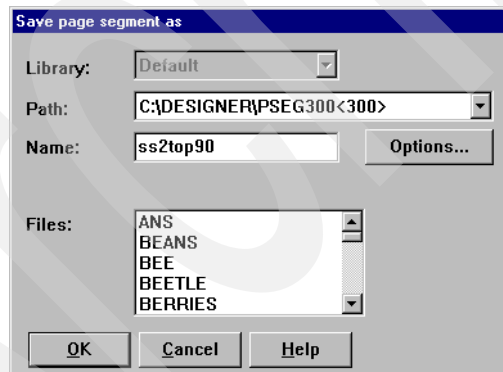

Figure 40. Saving the rotated page segment
4. You are prompted to save the new page segment in your library path. A useful convention is to add "90" to the original name (in this case `ss2top90`). Figure 40 shows an example of the panel.